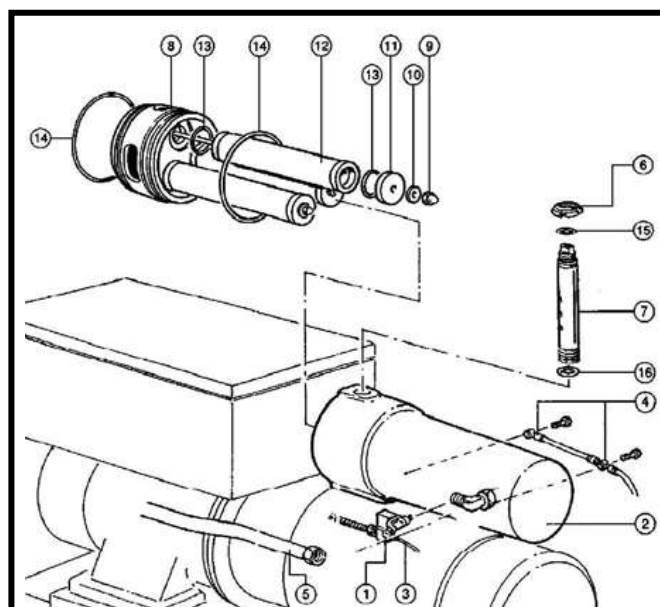

Fig15
Follow the fig 15, remove the off load solenoid valve connector (1), fitted behind the separator assembly (2), and detach the related pipe(3). Then detach the pressure switch(4)(5)and temperature switch(6). Follow the description in paragraph 7.2.5, and detach the oil return valve pipes (3). Detach the small pipe on the revolving union (4) connected to the cover separator. Dismantle the air delivery pipe (5). Loosen the ring nut (6) of the holed screw (7) which fixes the separator to the oil chamber. Take note of the position of the reference mark of the screw (7), because it shall be re-assembled in the same position. Remove the cover (8) to which the separating element is fixed, by fitting adequate tools into the circular slot of the cover. Unscrew the lock nuts (9), remove the seal washers (10), the covers (11) and the filtering element (12) with related gaskets (13). Replace the element (12). Replace the piece of drip-pipe. Replace the gaskets (10-13-14-15-16). Re-assemble the various components, taking particular care in positioning the gaskets (13) in the corresponding seats. To keep them in position during re-assembling, it could be useful to grease them slightly.
Important: the cover of the separator has to be replaced as shown by the arrow in figure15. The holed screw (7) has to be positioned with the reference mark oriented in the correct direction.